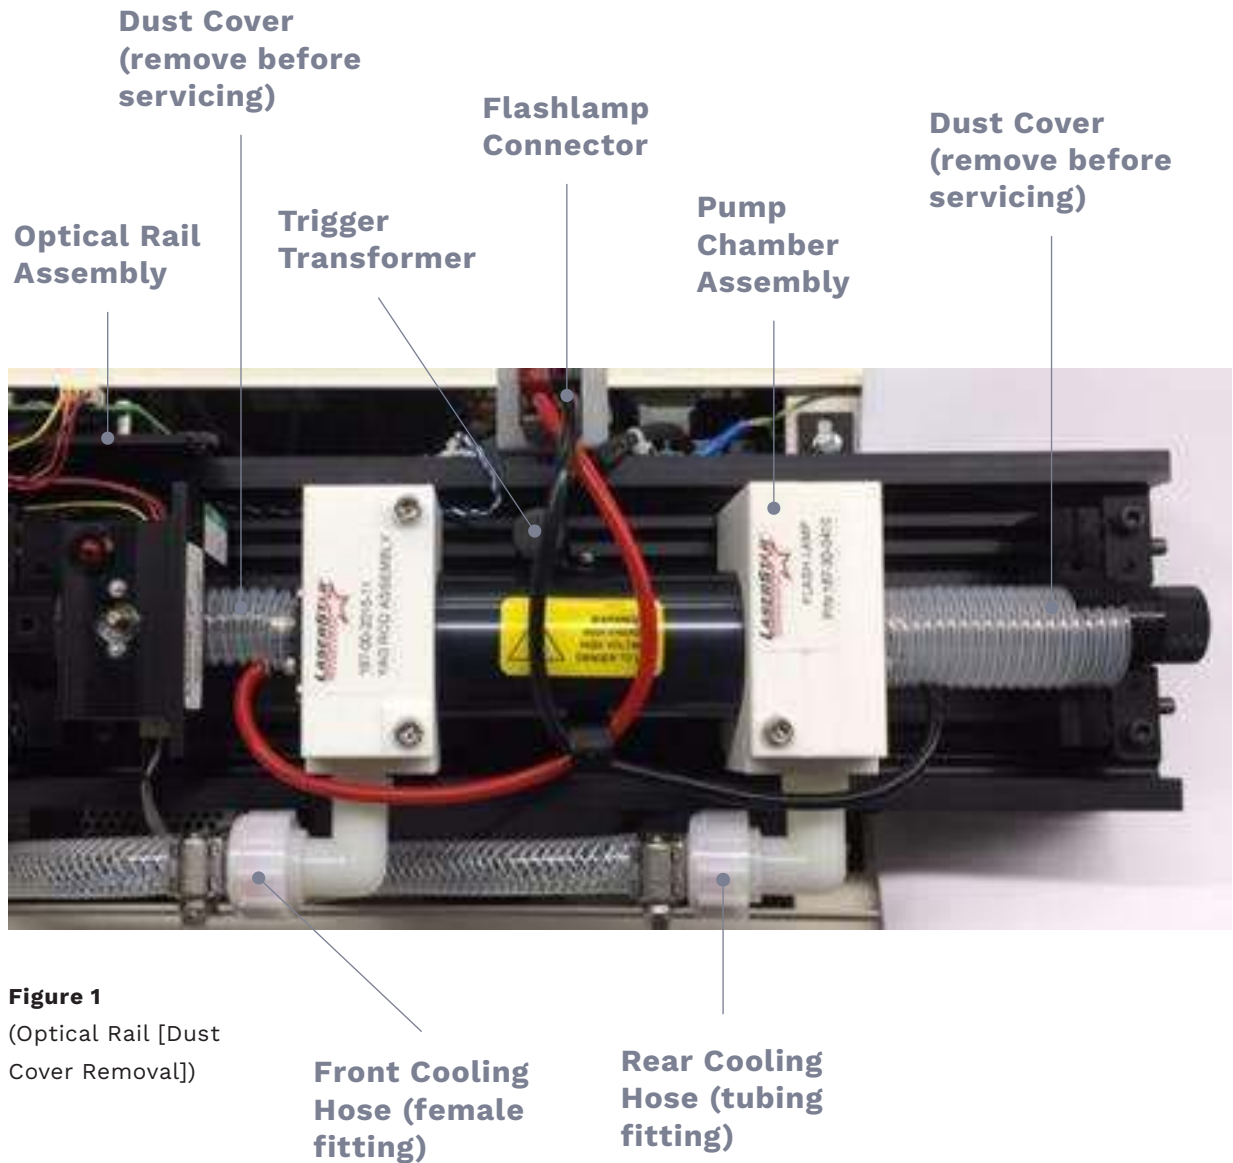

Figure 1
2. Wait five (5) minutes. (This allows the flashlamp power supply to fully discharge.)
3. Remove machine top cover by removing the screws located on the rear of the cover as shown in (Figure 1). Carefully slide the cover back and remove the ground wire/green with a yellow stripe.
7. Remove the dust protectors from the optical rail assembly **(figure 1)**.